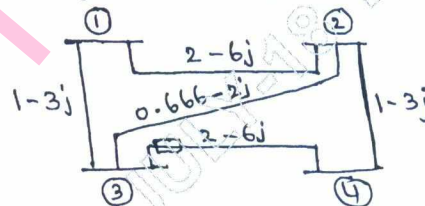

Fig.Q2(b)
- b. The primitive admittances of the lines are shown in the Fig.Q2(b). Taking ground as reference, form Y_{BUS} by Direct inspection method.